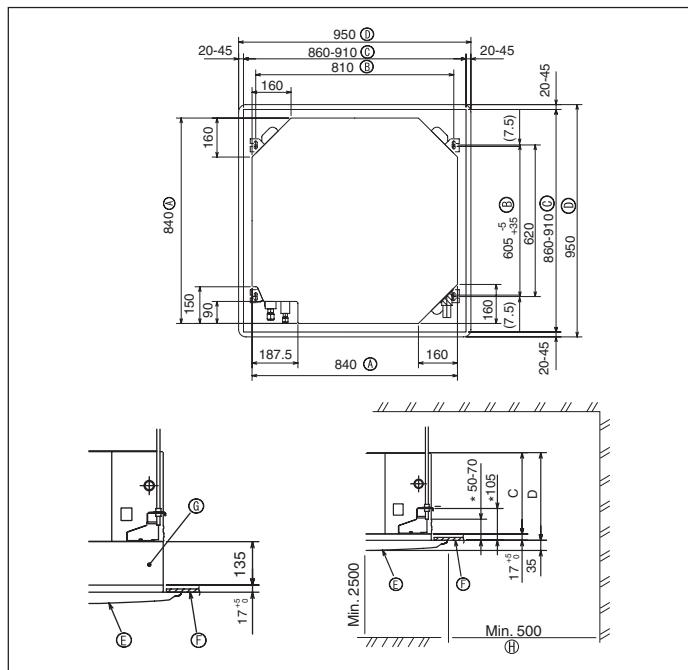

Fig. 3-2
②	Washers (with insulation)	4
③	Washers (without insulation)	4
④	Pipe cover (for refrigerant piping joint)
⑤	Small diameter	1
⑥	Large diameter	1
⑦	Band	8
⑧	Screw with washer (M5 × 25) for mounting grille	4
⑨	Drain socket	1
⑩	Insulation	1
⑪	Flare nut 1/4F(P60)	1
3.2. Ceiling openings and suspension bolt installation locations (Fig. 3-2)
* The dimensions of ceiling opening can be regulated within the range shown in Fig.3-2; so center the main unit against the opening of ceiling, ensuring that the respective opposite sides on all sides of the clearance between them becomes identical.